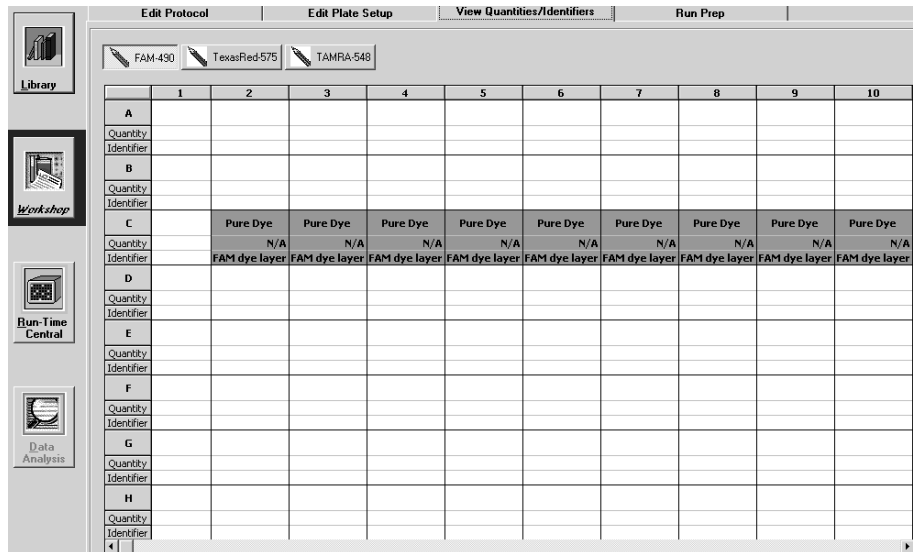

Fig. 4.4. Library / View Quantities/Identifiers window.
- **View Quantities and Identifiers:** Displays information entered by the user when the plate setup was created (see Figure 4.4).